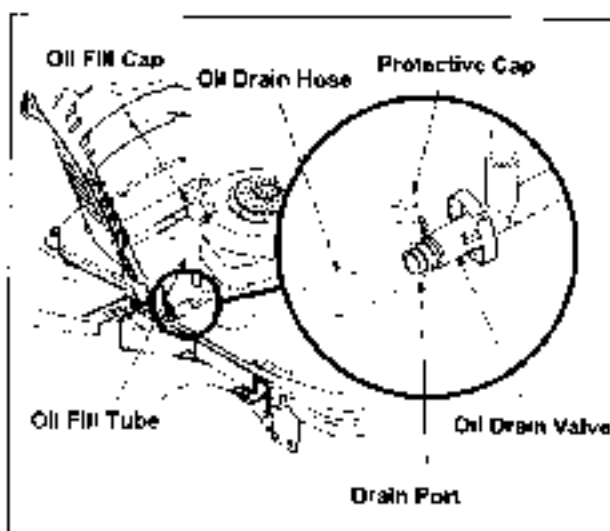

Figure 13
- Unscrew oil fill cap and remove dust cap from the oil fill tube. See Figure 13.
- Pop open the protective cap on the end of the oil drain valve to expose the drain port. See Figure 13.
- Push the oil drain valve in slightly, then rotate counterclockwise and pull outward to begin draining oil. See Figure 13.